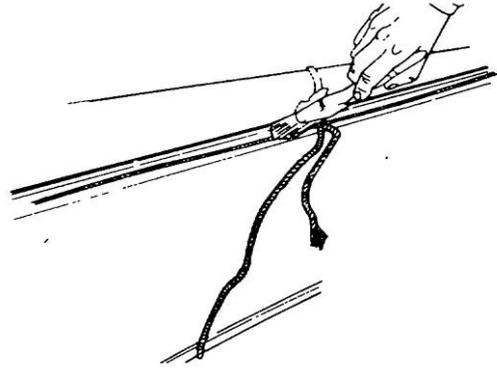

Figure 160 Applying Soap Solution to the Rubber Seal
- e. Using a solution of soap and water, lubricate the rope and rubber thoroughly (Figure 160).